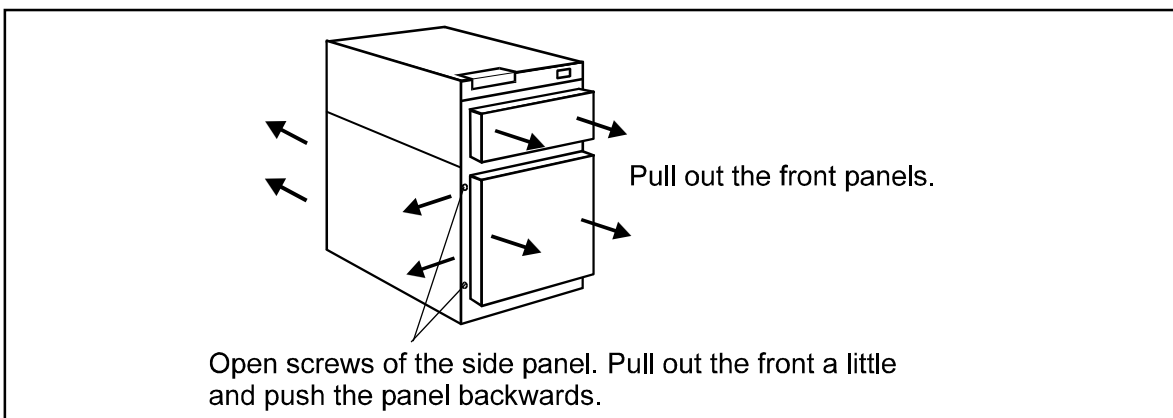

Fig. 5a. Removing the front panels and opening the left side panel.
6. Remove the front panels and open the left side panel of both UPS units (Fig. 5a).
- Remove the front panels of UPS. Fig. 5a.